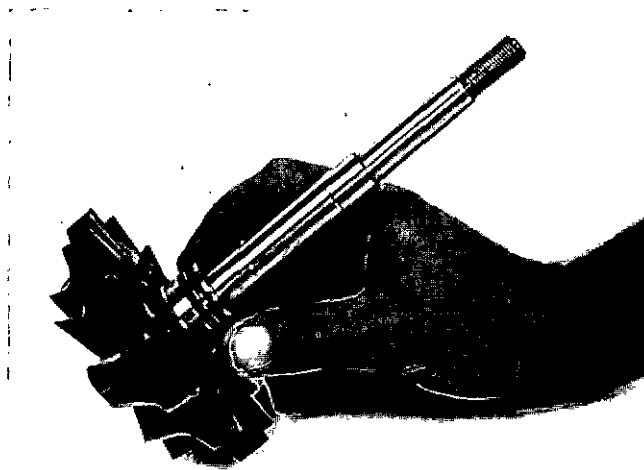

Fig. 3-11, (VTST36). Installing the sealing rings onto the turbine wheel and shaft
4. Position the sealing rings in the grooves on the turbine end of the rotor shaft, Fig. 3-11.